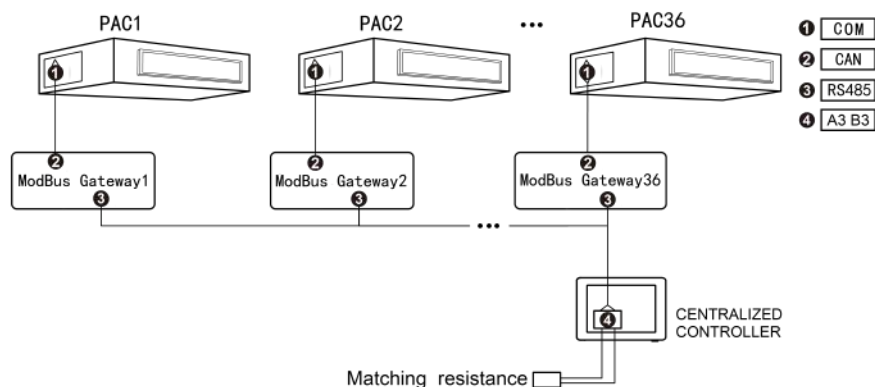

Fig.3.9 Centralized Controller Connected with PAC Unit
- (6) If the centralized controller is to be connected with PAC units, connect according to fig.3.9. Each PAC unit is connected with can interface of gateway through COM interface, and gateway 485 interface is connected with A3 and B3 interface of centralized controller.
- (7) Gateway address setting and function code setting: